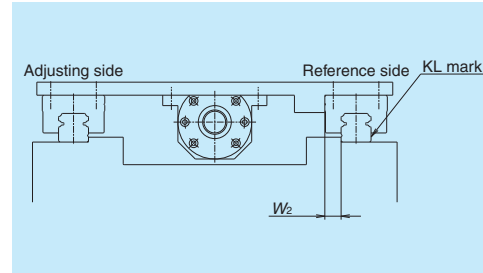

Fig. 10.2 Most common setting of the reference side rail
- When the datum surfaces of the reference side rail and slides are pressed to their respective mounting datum surfaces, the variation of distance (mounting width W_2 or W_3) between the datum surfaces of the rails and that of the slides must be minimized as set by the accuracy standard. (Figs. 10.2 and 10.3)